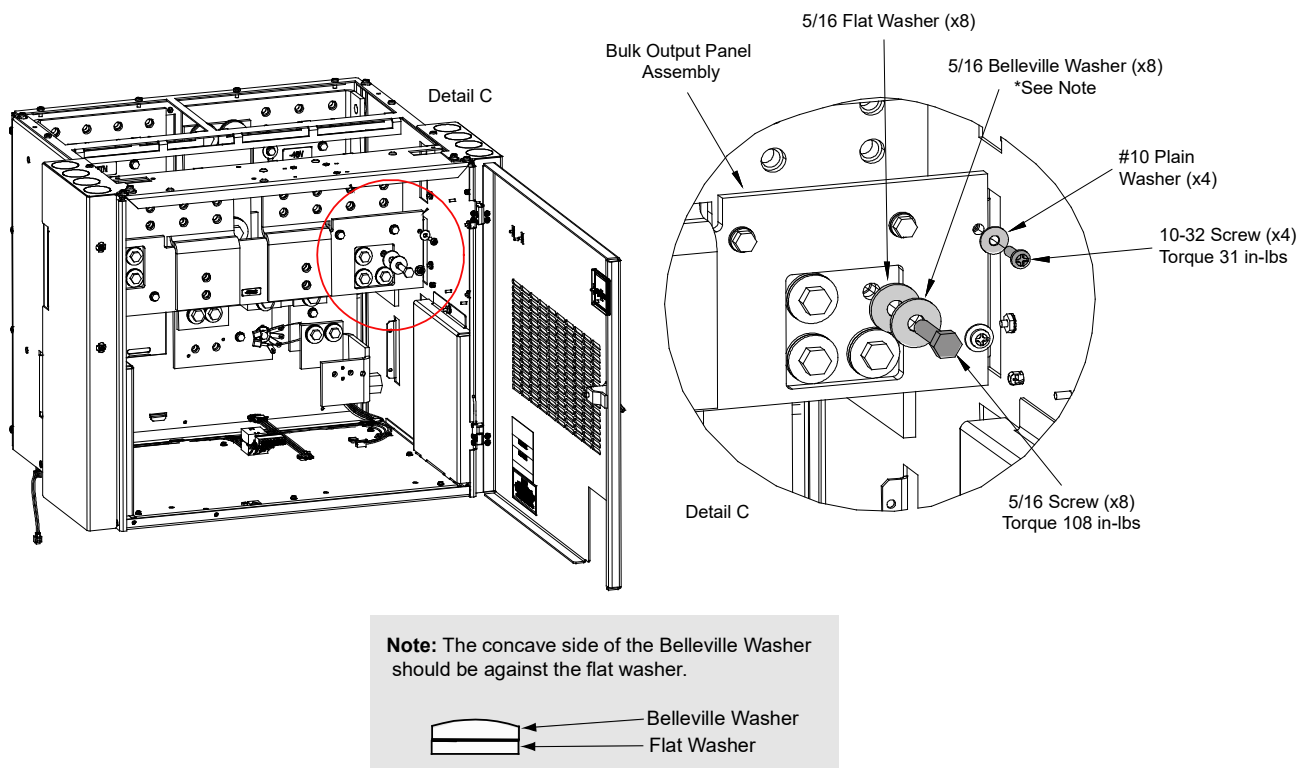

**Figure 1.9 Mounting the new busbar (P/N 562474) from the hot side, re-use original hardware.**
- [ ] 5. Mount the new busbar (562474) to the hot side as shown in **Figure 1.9**.